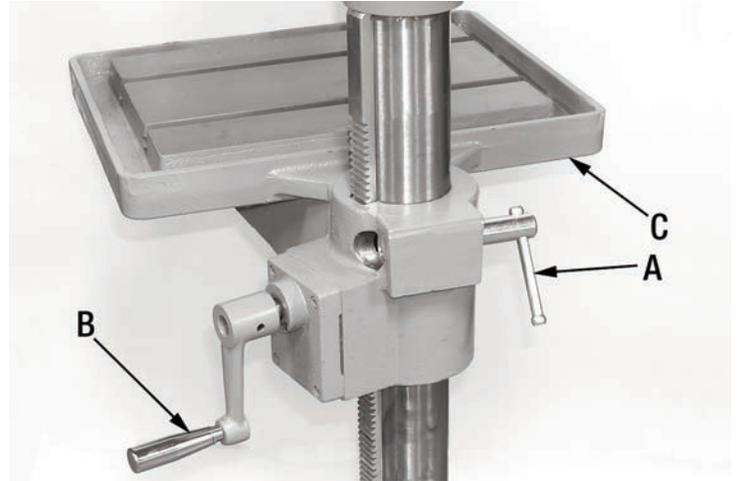

FIGURE 9
1. Loosen table lock handle (A) Fig.9.
2. Turn the table height adjustment handle (B) until the table is at the desired height.
3. Retighten table lock handle (A).
2. Swing the table (C) to the desired position.